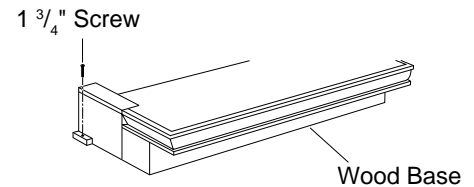

Figure 13 - Attaching Wood Base to Floor
10. Attach wood base to floor with two 1 3/4" black screws provided (see Figure 13). If the floor is concrete use anchor method (see *Attaching Wood Base to Solid Floor*, page 11).
15. Adjust assembly to remove any gaps. Attach remaining two 3" wood screws from hardware pack through openings inside of fireplace sides into the mantel. The openings are located at top behind the area for the brass louvers (see Figure 13).